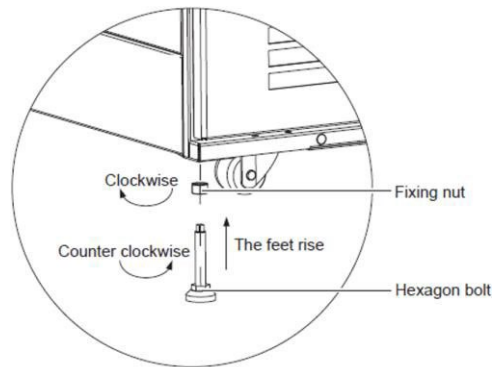

Figure 2-12 Tightening the fixing nut
- 3) Tighten the fixing nuts (as shown in Figure 2-12) on the feet bolts counter-clockwise following which the cabinet adjustment is completed.